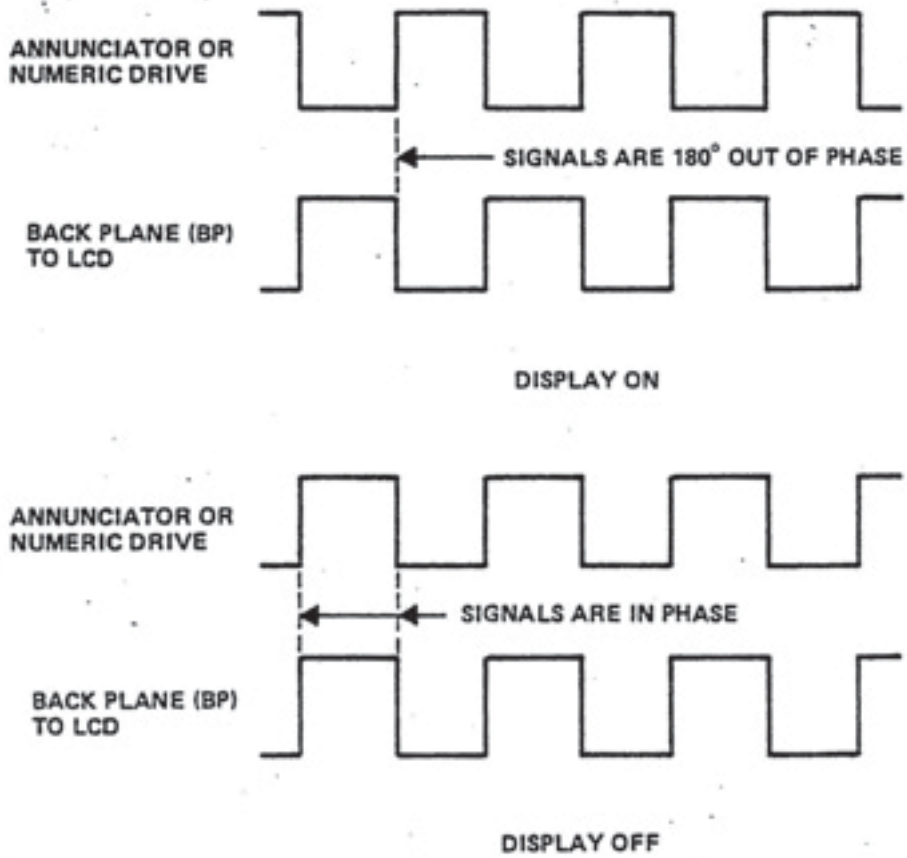

Figure 4-18. Liquid Crystal Display Control Signals.
Timing to the line drivers is provided by strobe signals from BCD to decimal decoder U50 while the 7-segment drivers receive timing from 4-bit latch and decoder U35. These two decoders receive their input from binary counter U51. The clock pulse (CP) for U51 is derived from three strobes S7, S11 and S15 combined by NOR gate U48A. Decoder U35 is controlled by inversion of strobe S7 through U48B while U50 is timed by strobe S15 through inverter U56. When a strobe signal in program time enables a line driver or 7-segment driver, the data at its input port is latched into the driver. The 100 Hz signal on the DF or BP input of the drivers is applied to the display segments and is inverted or not inverted through control of the data input to each driver. This in turn controls whether the segment is turned on or off. Any segment of an LCD is turned on by a 180 degree difference of phase between segment input and the main backplane drive to the LCD (Figure 4-18). To turn the display segment off the phase difference between these two signals must be zero degrees; that is, the two signals must be in phase (see Figure 4-18).
5. Receiver Control Circuit Card A9. This circuitry routes data entered at the front panel, to the microprocessor bus and routes processed data from A6A2 to various receiver functions on A4, A5, A7 and A8 circuit cards. This data flow in the data bus I0D0 through I0D7 is controlled by read, write and address controls (I0C0 through I0C7) signals from the microprocessor. All data entered from the front panel except audio and IF functions described in item 3, is transferred to the